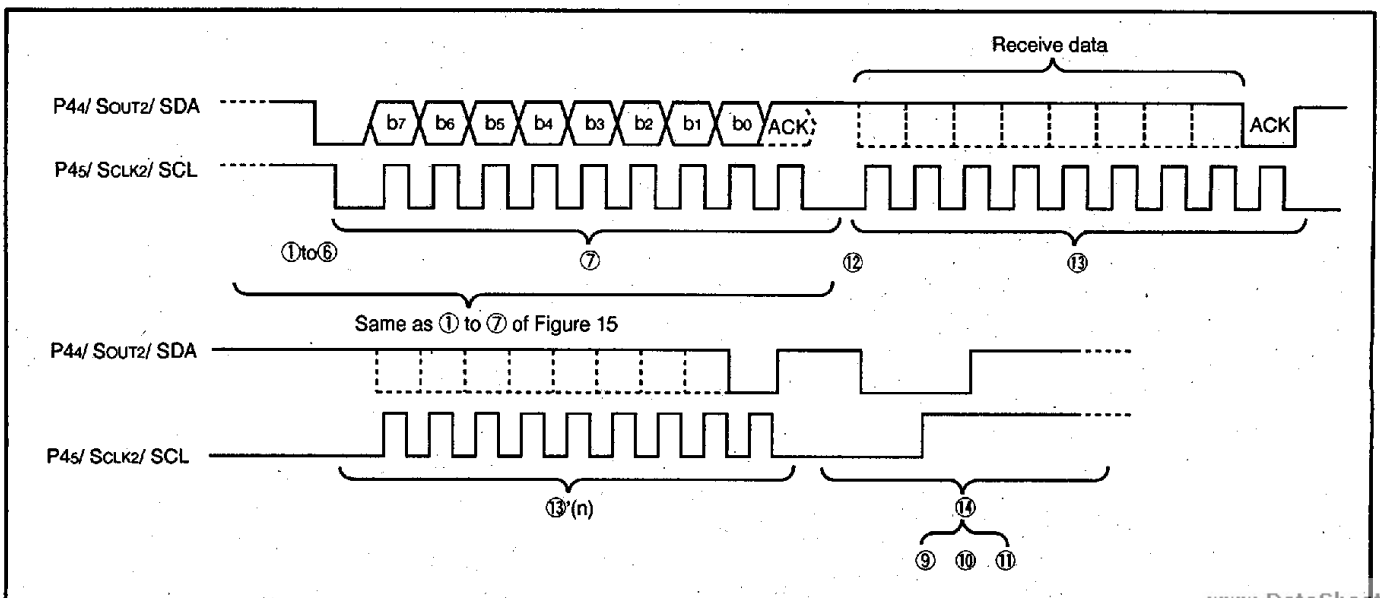

Fig. 17. Timing at master receive
- ① To generate an interrupt at the end of transmission, set bit 7 of the special mode register 2 (address 00DB16) to "1" (select the special serial I/O interrupt).
- ② Then set bit 3 of the interrupt control register 2 (address 00FF16) to "1" (enable the serial I/O2 interrupt). Also, set the interrupt disable flag I to "0" by the CLI instruction.
- ③ The output signals SDA and SCL at the master transmission are output from ports P44 and P45. Set all bits (bits 4 and 5) corresponding to P44 and P45 of the port P4 register (address 00C816) and the port P4 direction register (address 00C916) to "1."
- ④ Set the transmission clock. The transmission clock uses the overflow signal of timer 4. Set appropriate value in timer 4 and the timer mode register 2 (For instance, if  $f(X_{IN})/2$  is selected as the clock source of timer 4 and 416 is set in timer 4, the master transmission clock frequency is 25 kHz at  $f(X_{IN}) = 4$  MHz).
- ⑤ Set contents value of the special mode register 2 (address 00DB16). (Ordinary, the value is "8316")
- ⑥ Set bit 3 of the serial I/O2 mode register (address 00DE16). After that set the special mode register 1 (address 00DE16). Figure 17 shows the structure of special mode registers 1 and 2.
- ⑦ Write the next data to be transmitted in the special serial I/O register (address 00D916). Immediately after this, set "0" to bits 0 and 1 of the serial mode register 2 to make both SDA and SCL output to "L." This is for arbitration. The start signal has been completed. The hardware automatically sends out data of 9-clock cycle. The 9th
Figure 17 shows the master reception timing.